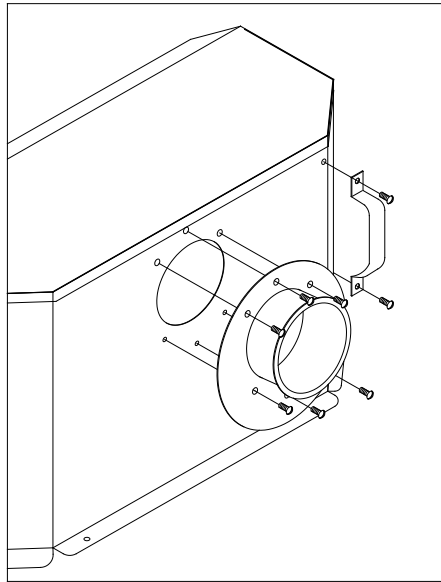

Fig. 5
9. Bolt cart connector (21) and handle (19) to front panel assembly (1) with 1/4" x 1/2" truss head screws and whizlock nuts. **Fig. 5**